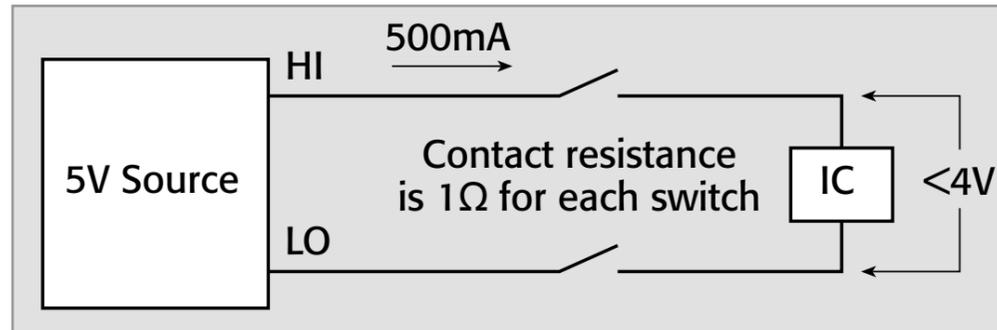

Figure 3a. Voltage drops across the contact resistance cause improper results
For example, **Figure 3a** shows a 5V source being switched to an integrated circuit (IC). The contact resistance for each switch is  $1\Omega$ . If the current drawn from the source is 500mA, the voltage drop across each switch will be 500mV, and the voltage at the integrated circuit will be reduced by a total of 1V. Operation of the IC will likely be unsatisfactory. **Figure 3b** shows a 5V source with remote sense. In this case, sense leads are also connected to the load. This will ensure that the actual voltage across the load will be 5V, and the IC will operate as intended. Note that the voltage at the source output terminals is 6V.